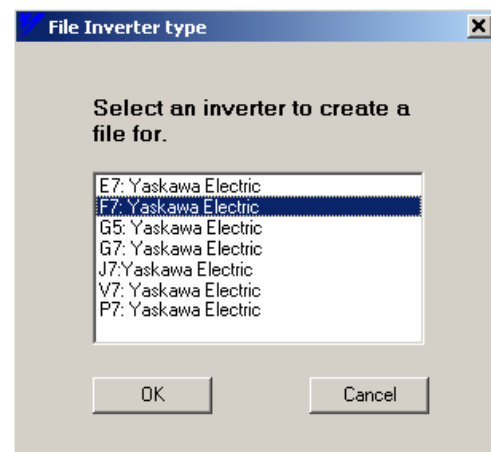

Figure 4.10: Selecting an Inverter Type (Standard Database Shown)
1. Clicking on File > New opens the dialog box shown in Figure 4.10.